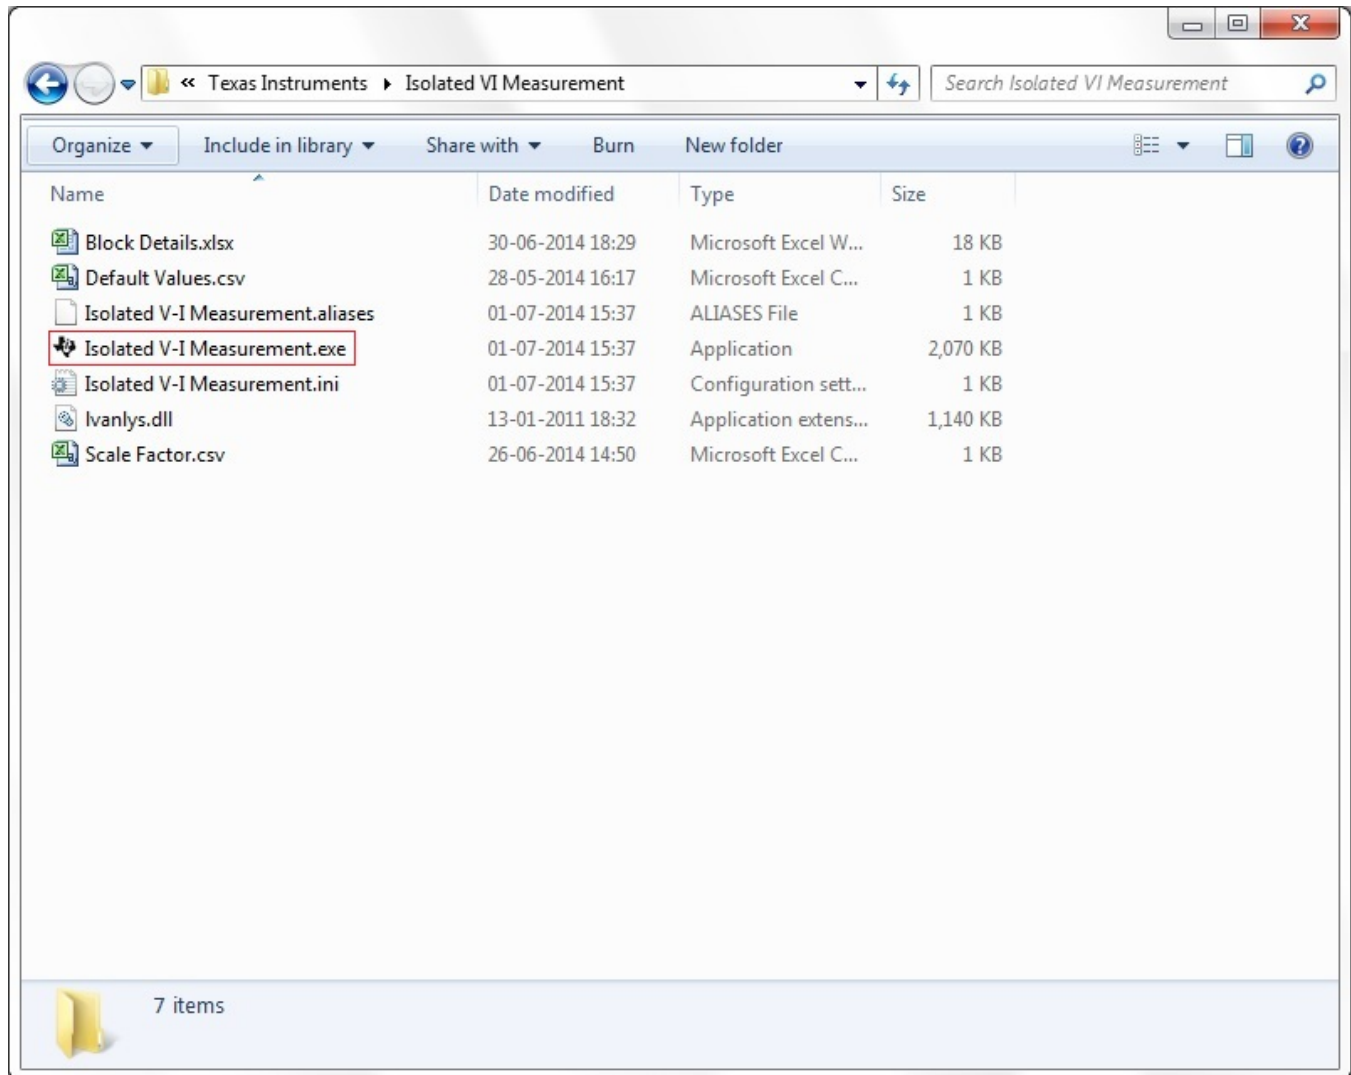

图 29. Isolated VI Measurement Folder Structure
2. Double-click on the *Isolated V-I Measurement.exe* (图 29)